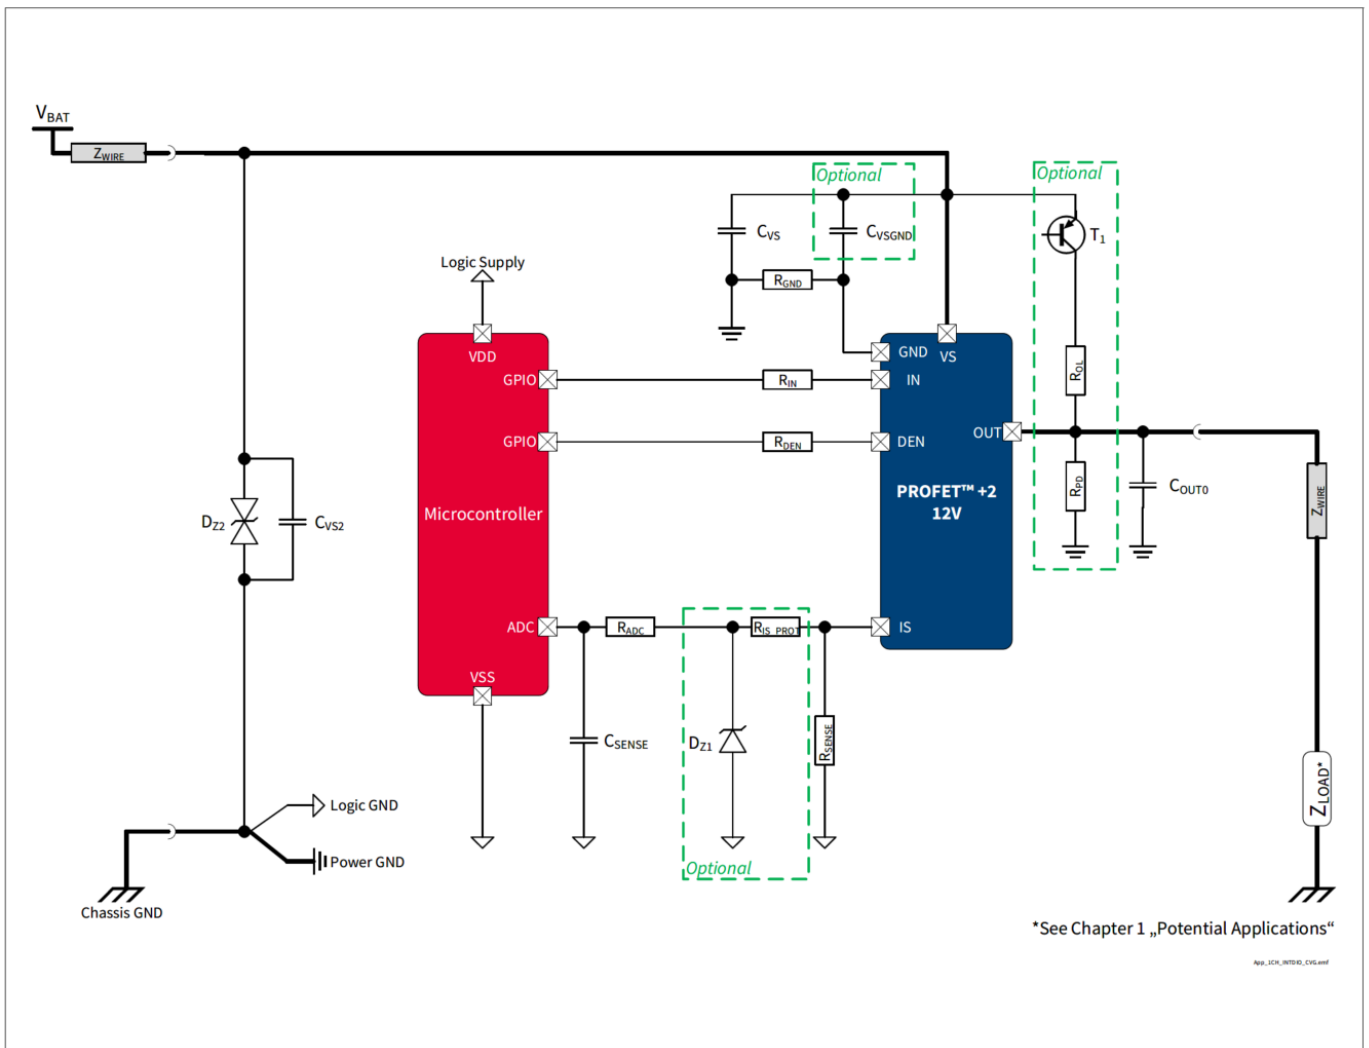

Figure 37 BTS7006-1EPP Application Diagram
1.10, 2020-12-14	<p>Typo fixed (PROFET™+2 → PROFET™ +2)</p> <p>Figure 1, Figure 16, Figure 17, Figure 18, Figure 20, Figure 21, Figure 22, Figure 25, Figure 29, Figure 30, Figure 34, Figure 37 updated</p> <p>Chapter 1, Chapter 6.1, Chapter 6.1.3, Chapter 6.1.4, Chapter 8.2, Chapter 9.2.2 updated</p> <p>Chapter 8.4.1 updated (typo fixed)</p> <p>P_7.4.5.1, P_7.4.5.2, P_7.4.5.3, P_7.4.5.4, P_7.4.5.6, P_7.4.5.7 updated (added in Note or Test Condition: See Figure 15)</p> <p>P_8.6.4.1 updated (added in Note or Test Condition: See Figure 26)</p> <p>P_8.6.4.2 updated (added in Note or Test Condition: See Figure 27)</p> <p>P_9.6.0.6 updated (Parameter: SENSE Operative Range for <math>k_{ILIS}</math> Operation (<math>V_S - V_{IS}</math>) → Saturation Voltage in <math>k_{ILIS}</math> Operation (<math>V_S - V_{IS}</math>))</p> <p>P_9.6.0.7 updated (Parameter: SENSE Operative Range for Open Load at OFF Diagnosis (<math>V_S - V_{IS}</math>) → Saturation Voltage in Open Load at OFF Diagnosis (<math>V_S - V_{IS}</math>))</p> <p>P_9.6.0.8 updated (Parameter: SENSE Operative Range for Fault Diagnosis (<math>V_S - V_{IS}</math>) → Saturation Voltage in Fault Diagnosis (<math>V_S - V_{IS}</math>))</p>
1.04, 2019-10-15	<p>P_8.7.12.1, P_8.7.12.7, P_8.7.12.8 updated (added in Note or Test Condition: link to Figure 24)</p> <p>P_7.5.12.5 updated (added in Note or Test Condition: see Figure 18)</p> <p>P_7.5.12.12 updated (added in Note or Test Condition: see Figure 20; deleted unnecessary space in Symbol: <math> dV_{OUT} / dt </math> → <math> dV_{OUT} / dt </math>)</p> <p>P_8.7.12.6 updated (added in Note or Test Condition: see Figure 25)</p> <p>P_9.7.12.1 updated (added in Note or Test Condition: see Figure 32)</p> <p>Figure 1, Figure 37 updated</p> <p>P_4.3.0.7 added</p> <p>Table 22 updated</p> <p>Chapter 5.1 updated (added: see Chapter 10 for the complete application setup overview)</p> <p>Chapter 9.2 updated (<math>2 V</math> → <math>V_{DS(OLOFF)}</math>)</p> <p>General: updated (ReverSave™ → ReverseON)</p>
1.01, 2018-06-14	<p>Page numbering corrected</p> <p>Figure Application Diagram, Figure 29, Figure 37 updated</p>